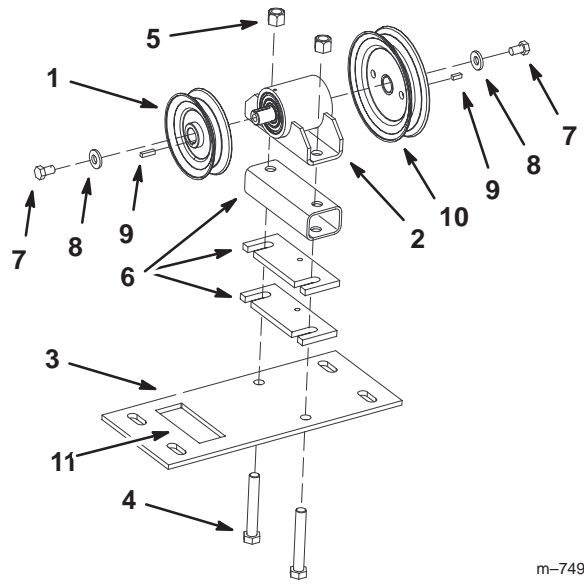

Figure 12
5. Install the new bearing housing and existing spacers to the new plate (Fig. 12).
- Note:** Install the new small pulley nearest the cutout in the plate (Fig. 12).
6. Install the new pulleys to the bearing housing with 2 bolts (3/8 x 5/8 inch), 2 spring washer (3/8 inch) and 2 keys (Fig. 12).